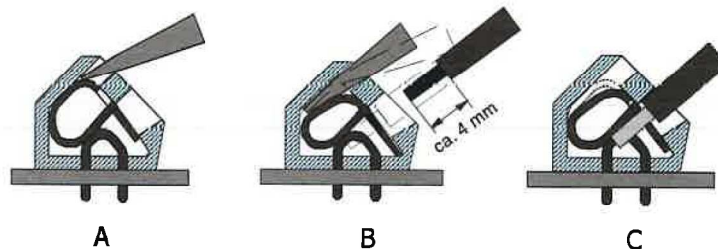

Fig. 4.9 Connection in screwless spring-loaded terminals
- Insert a size 1 screwdriver in the upper opening and insert it turning slightly upwards (Fig. 4.9 A).
- Now place the stripped connecting wire in the lower opening and hold it there securely (Fig. 4.9 B).
- Withdraw the screwdriver. The connecting wire is then firmly fixed (Fig. 4.9 C).
The insulation of the connecting wire must extend as far as the terminal indentation, i.e. there must be no further bare part of the connecting wire visible above the terminal edge (as shown in Fig. 4.9 C). Touching live parts is dangerous to life. The stripped part of the connecting wire should be shortened if necessary.